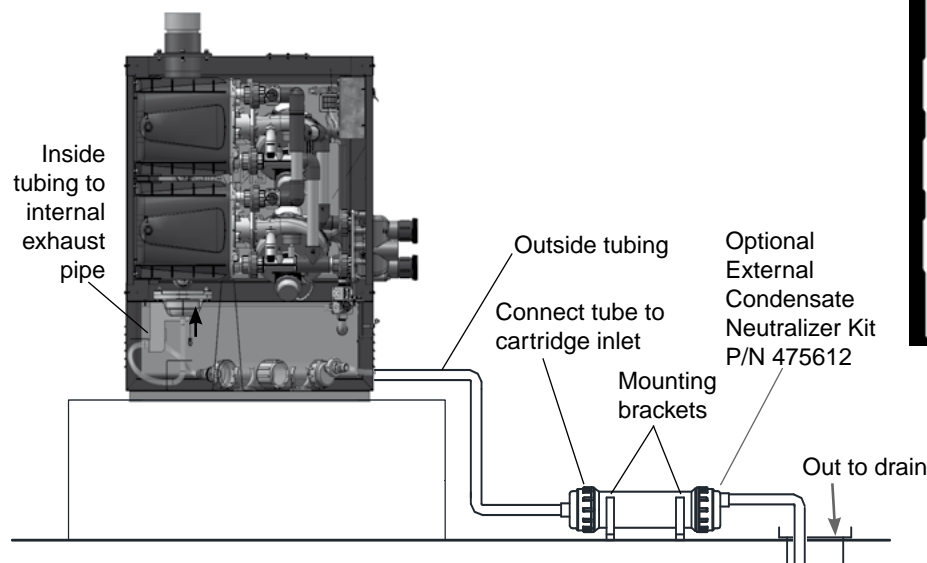
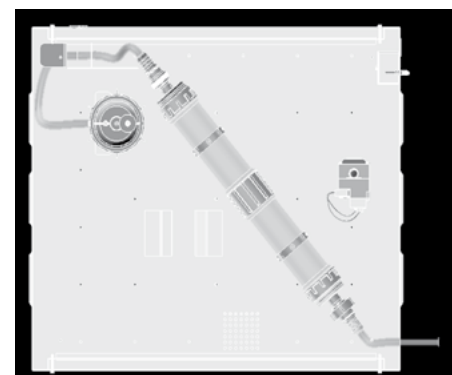

Figure 31. External Neutralizer Cartridge for indoor heater Installation
Figure 32. Internal Neutralizer Cartridge installed on base of heater for outdoor heater Installation
3. **Indoor Heater Installation (Figure 31):** Mount the neutralizer cartridge on the floor near the side of the heater. **Outdoor Heater Installation (Figure 32):** Using the provided brackets, secure the neutralizer cartridge onto the heater base.
#### **TIME CLOCK/FIREMANS SWITCH (See Figure 31 above):**